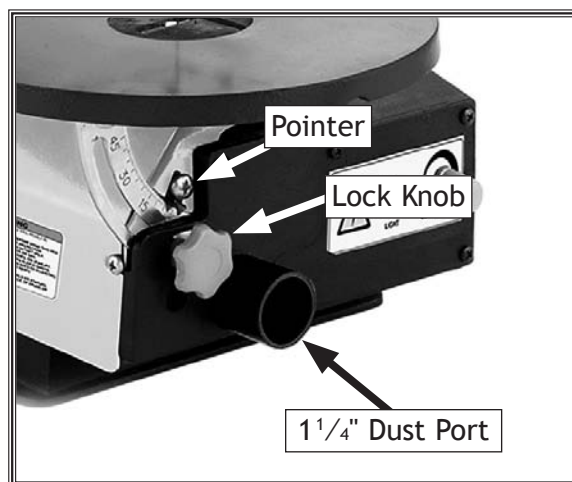

Figure 11. Table tilt controls and scroll saw dust port.
3. Loosen the table lock knob (see **Figure 11**).
We recommend that you connect the 1 1/4" dust port of your scroll saw (see **Figure 11**) to a shop vacuum to keep the wood debris from accumulating underneath the table insert, which could interfere with blade movement.